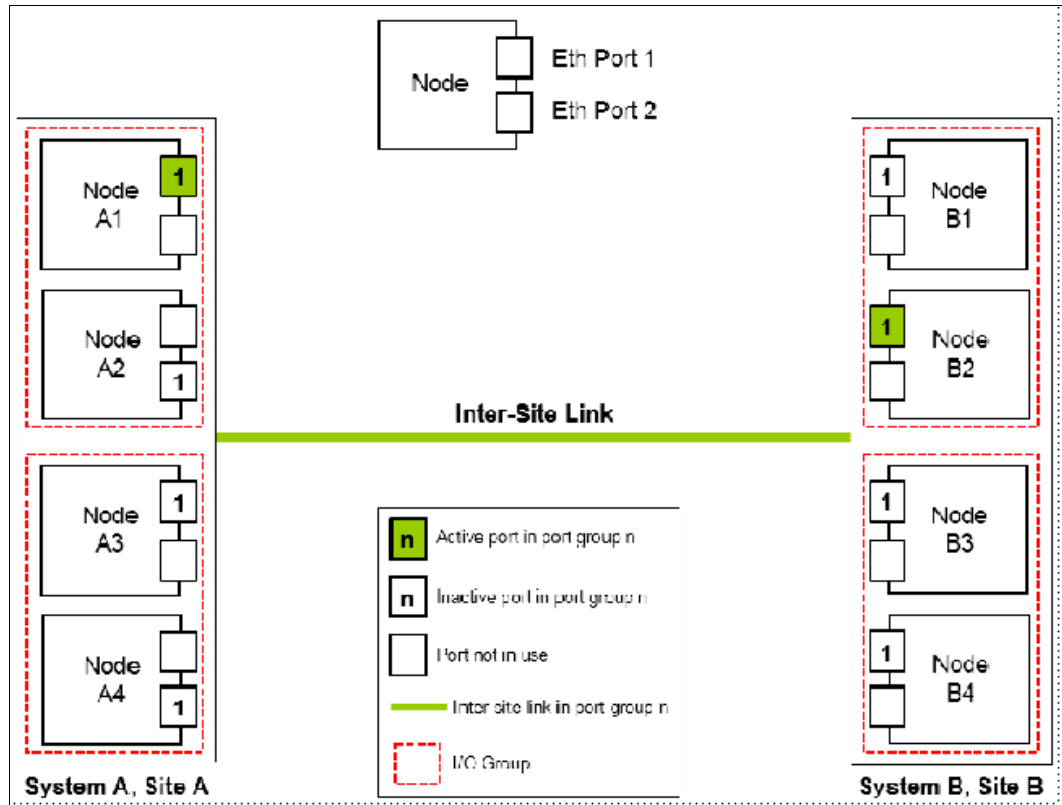

Figure 10-100 Multinode systems single inter-site link with only one RC port group
- Two 4-node systems in IP partnership over a single inter-site link (with failover ports configured), as shown in Figure 10-100 on page 683 (configuration 3).
As shown in Figure 10-100, two 4-node systems are available: